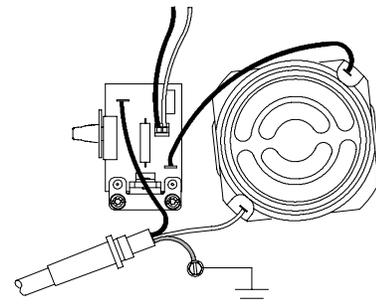

Fig. 2
6. Remove both motor leads and pressure control switch connections (Fig. 2). Remove gray shroud (S) from motor and save.
7. Remove and save pressure control (P).
8. Remove and save 2 screws holding motor (T) to pump housing (M). Remove and save motor.
9. Remove 4 screws (E) holding cover (C) to pump housing (M). Separate cover and pump housing.
10. Discard pump housing (M) with pump assembly, combination gear, large gear and connecting rod.